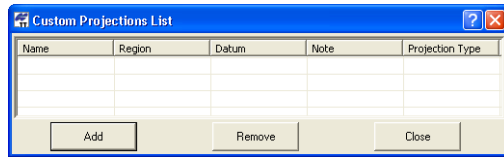

Figure 2-19. Custom Projections List
2. On the *Custom Projections List* (Figure 2-19 on page 2-13):